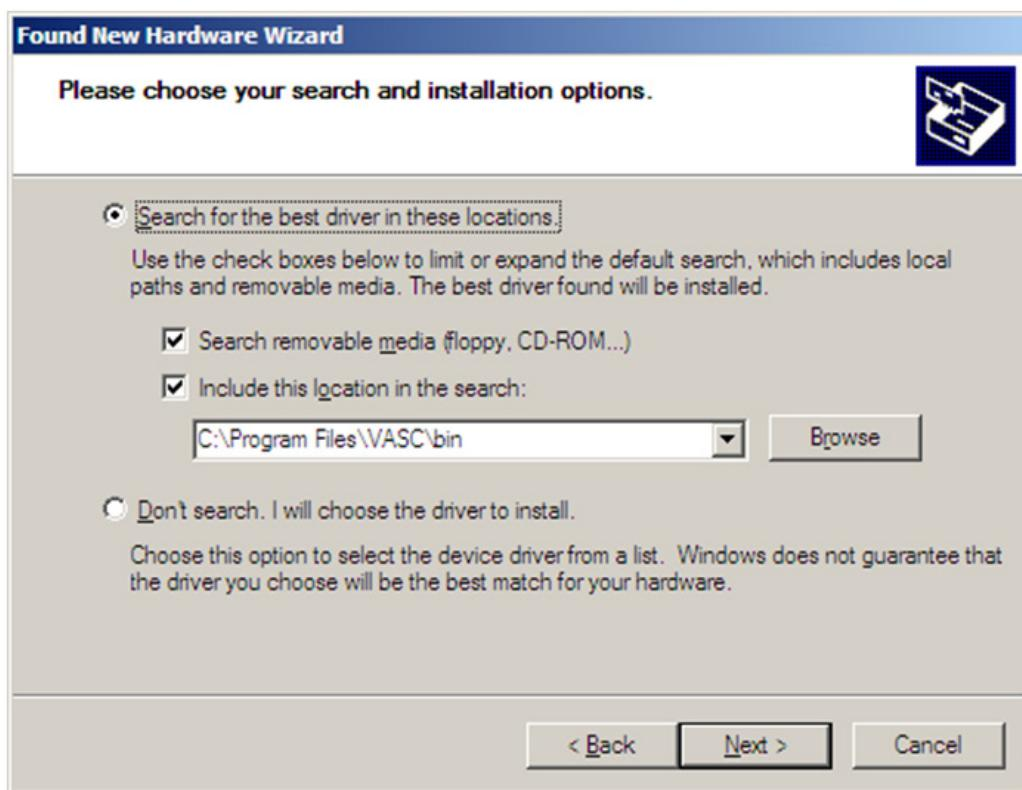

Figure C-2. Search and installation options
2. Select **Install from a list or specific location (Advanced)** option as shown in Figure C-1, and click on the **Next** button. Search and installation options window appears as shown in Figure C-2.